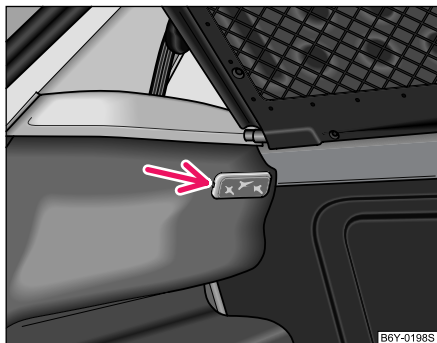

Fig. 167 Remove the luggage compartment light
- Insert a screwdriver into the slot next to the light ⇒ **fig. 167**.